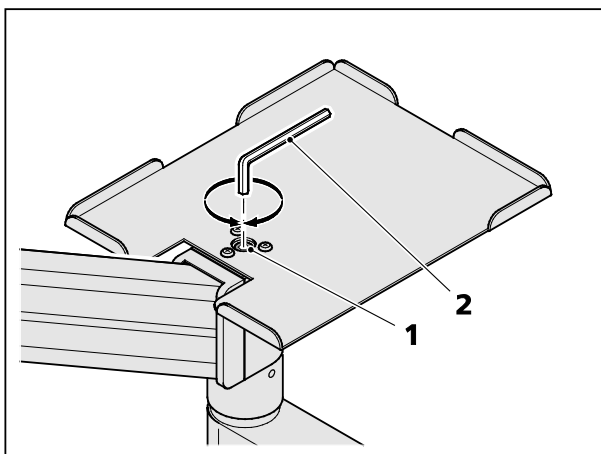

Fig. 9 Adjusting the articulated suspension arm U
- Use an Allen key (Fig. 9/2) to turn the socket screw (8 mm) of the spring lock (Fig. 9/1) anticlockwise (maximum load balanced by the suspension arm ~ 4.8 kg).
- Turn hexagon socket-head screw (8 mm) of spring lock (Fig. 9/1) clockwise (minimum balanced load ~ 2 kg).